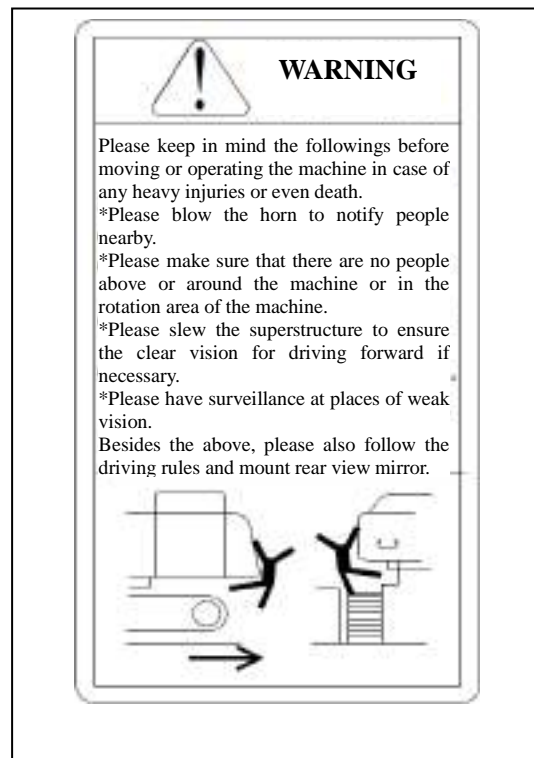

Figure 1-13 Warning before operation
(12) Warning before operation, as shown in Figure 1-13.